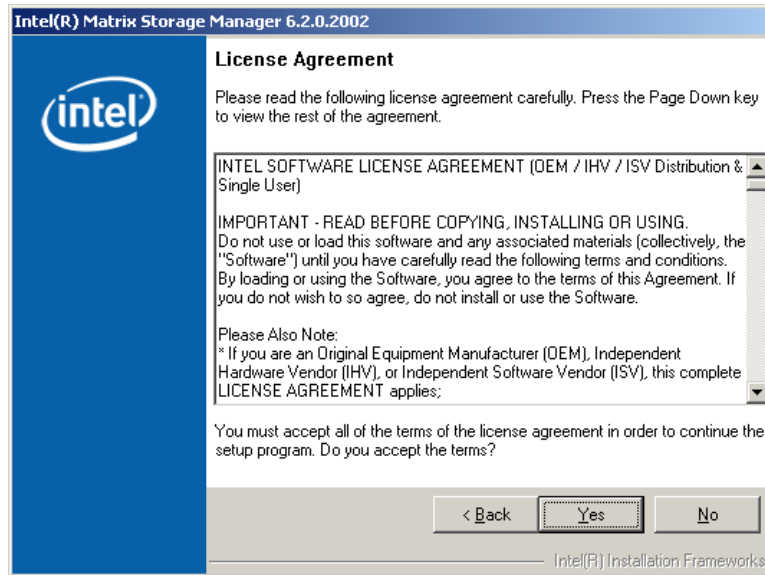

Figure 7-27: Matrix Storage Manager License Agreement
Step 9: Click **NEXT** and a license agreement appears (**Figure 7-27**).